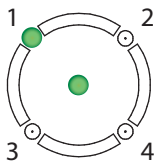

Fig. 4.2
- Once connected to the base station, the LED in the middle of the circle on the transceiver front illuminates to indicate it is turned on. One of the outer LEDs (numbered 1 to 4) around the circle also turns on (depending on which port the transceiver is connected to on the base station, Fig. 4.2 shows the RT7000 connected to the first port (J3200), also see Table 1). This outer LED will initially flash in Magenta, blue, or yellow (see Table 2) as the transceiver scans for available channels, then turn solid green once a channel is found. (On the base station HOME screen, the transceivers' indicator is yellow while scanning before turning green.)
station, Fig. 4.2 shows the RT7000 connected to the first port (J3200), also see Table 1). This outer LED will initially flash in Magenta, blue, or yellow (see Table 2) as the transceiver scans for available channels, then turn solid green once a channel is found. (On the base station HOME screen, the transceivers' indicator is yellow while scanning before turning green.)